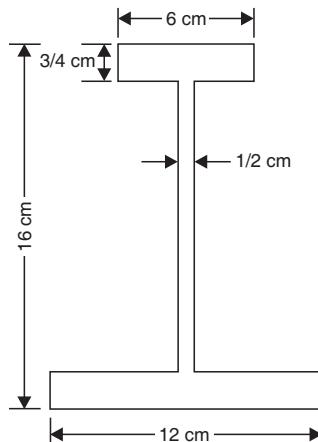

Fig. 7.46
4. Fig. 7.46 shows an unsymmetrical I section. The upper flange is  $6 \text{ cm} \times 3/4 \text{ cm}$ , the lower flange is  $12 \text{ cm} \times 1 \text{ cm}$ , the overall depth is 16 cm and the thickness of the metal at the web is  $\frac{1}{2} \text{ cm}$ . Find the distance of c.g. from the bottom of the lower flange.